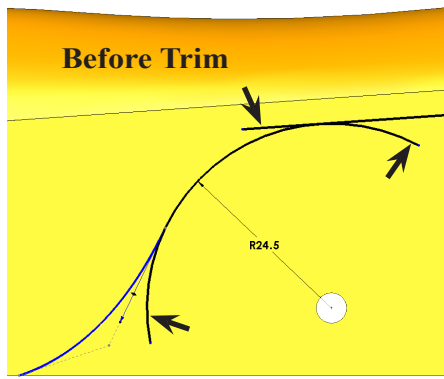
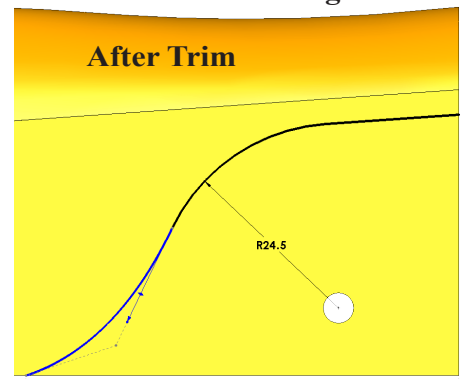

Fig. 100
Fig. 101
Step 25. Trim the line and arcs as shown in **Fig. 100**. Click segments to remove (trim). Results shown in **Fig. 101**. Click **Yes** to message.